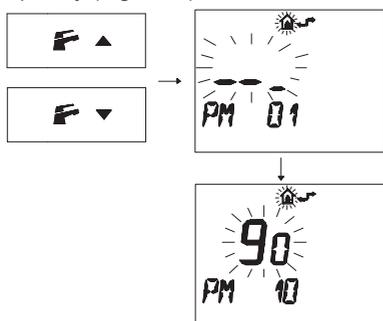

Fig. 7.41
- Press buttons or to display the "PM10" program for selecting the ignition frequency (Fig. 7.41).
In Fig. 7.41 a SET programmed at 90 is displayed corresponding to a re-ignition time of about 3 minutes.